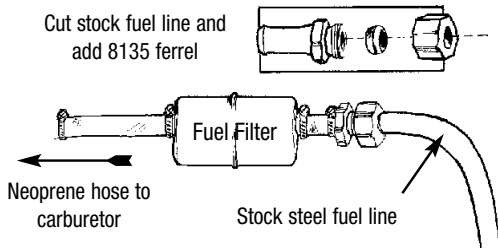

Figure 3 - Fuel Line Kit #8135 installed on stock steel fuel line
2. **The stock steel fuel line must be converted** to fuel resistant rubber hose. The stock steel line will not connect to the Performer Series Carburetor. Use Edelbrock Universal Fuel Line Kit #8135. This kit contains a filter, neoprene hose and fittings to adapt 5/16" and 3/8" stock fuel lines (**See Fig. 3**).